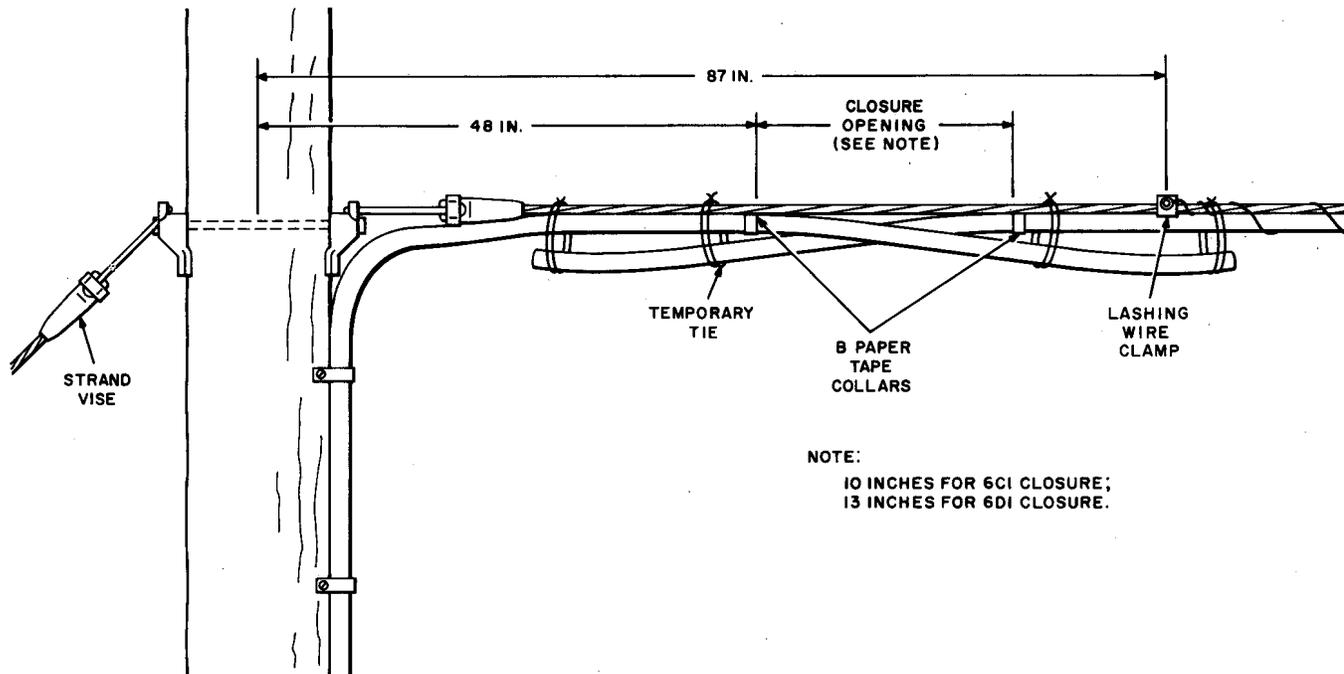

Fig. 4—Location of Closure at Dead-End Pole
3.02 At the junction of underground or buried and aerial PIC cables, locate the closure on the strand as shown in Fig. 4.
3.04 After determining the closure location, cut and secure lashing wire to the strand with lashing wire clamps, as shown in Fig. 4 and 5.
**4.01** Overlap the ends of the cables and place B paper tape markers as shown in Fig. 4 or 5. (See Section 627-240-212 for details on dead ending strand.)